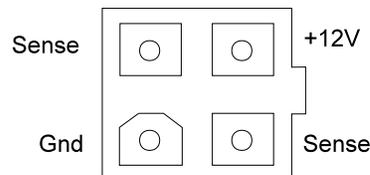

Figure 5. Power Supply Connector J2
7. On the power supply connector J2 (see Figure 5), check that the +12V signal falls between a minimum of +11.5 volts and a maximum of +12.6 volts.